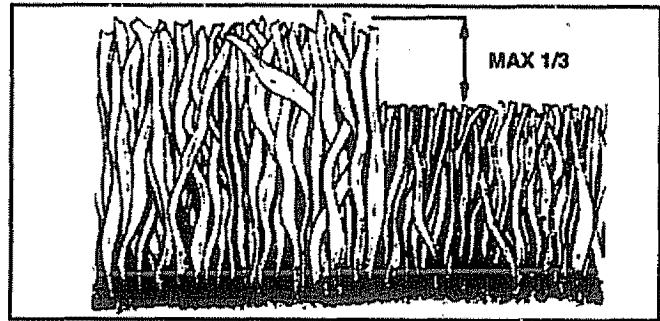

FIG. 10B
- For best results, adjust the mower cutting height so that the mower cuts off only the top one-third of the grass blades (See Fig. 10B). For extremely heavy mulching, reduce your width of cut on each pass and mow slowly.